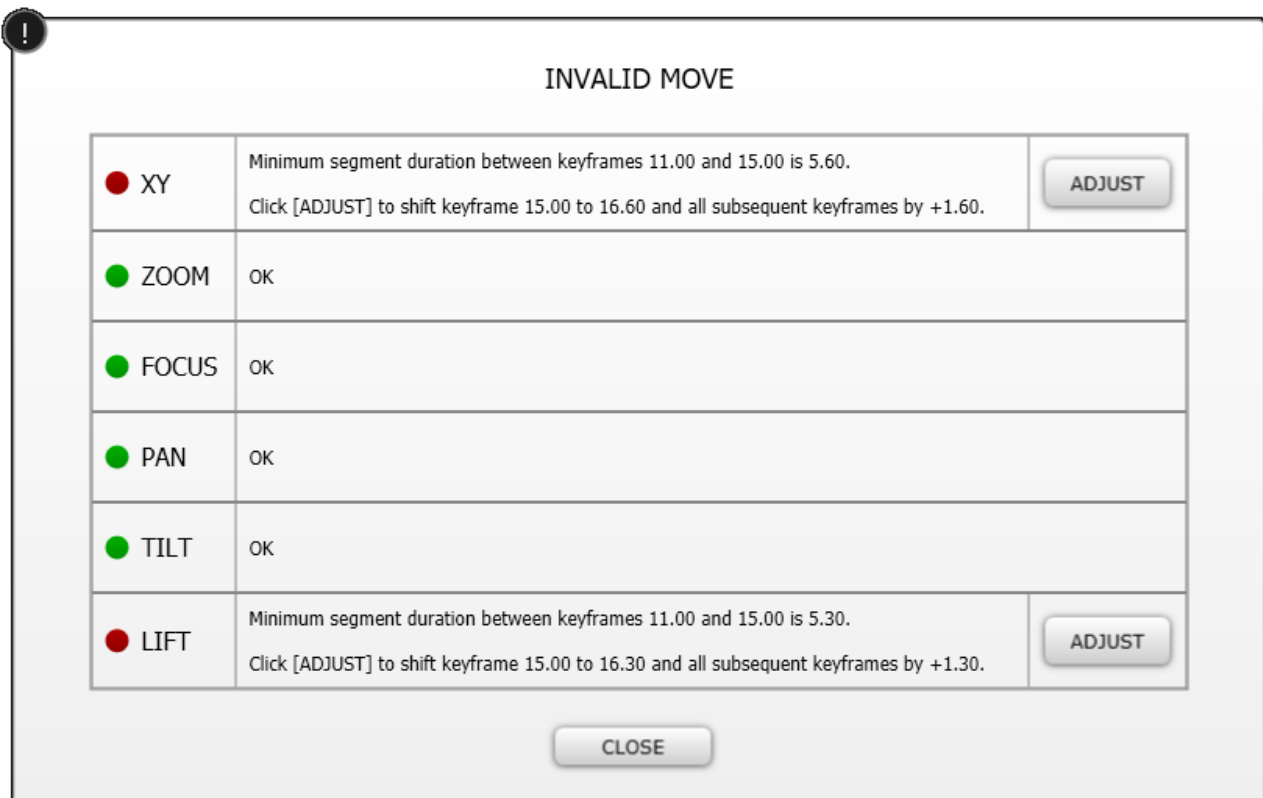

Figure 54 - INVALID MOVE Dialog Box
4. If the **INVALID MOVE** dialog box appears (Figure 54), the move is invalid.